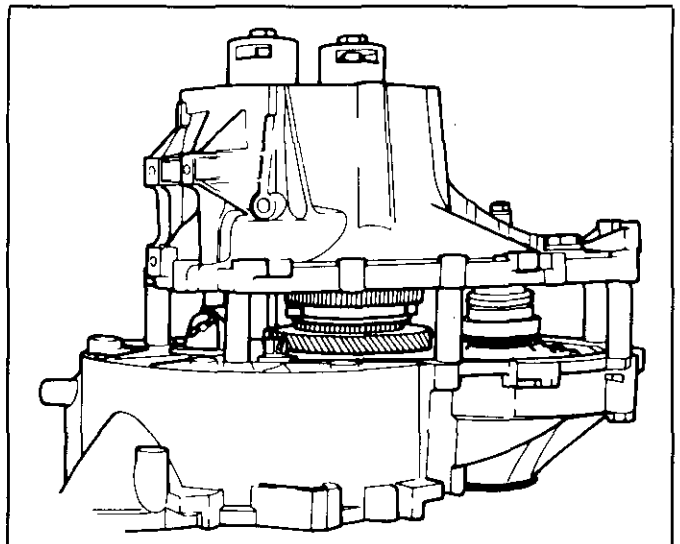

Figure 45 Gages and Spacers in Position
- B. Place seven spacers provided with J-33373 evenly around the perimeter of the clutch housing (Figure 45).